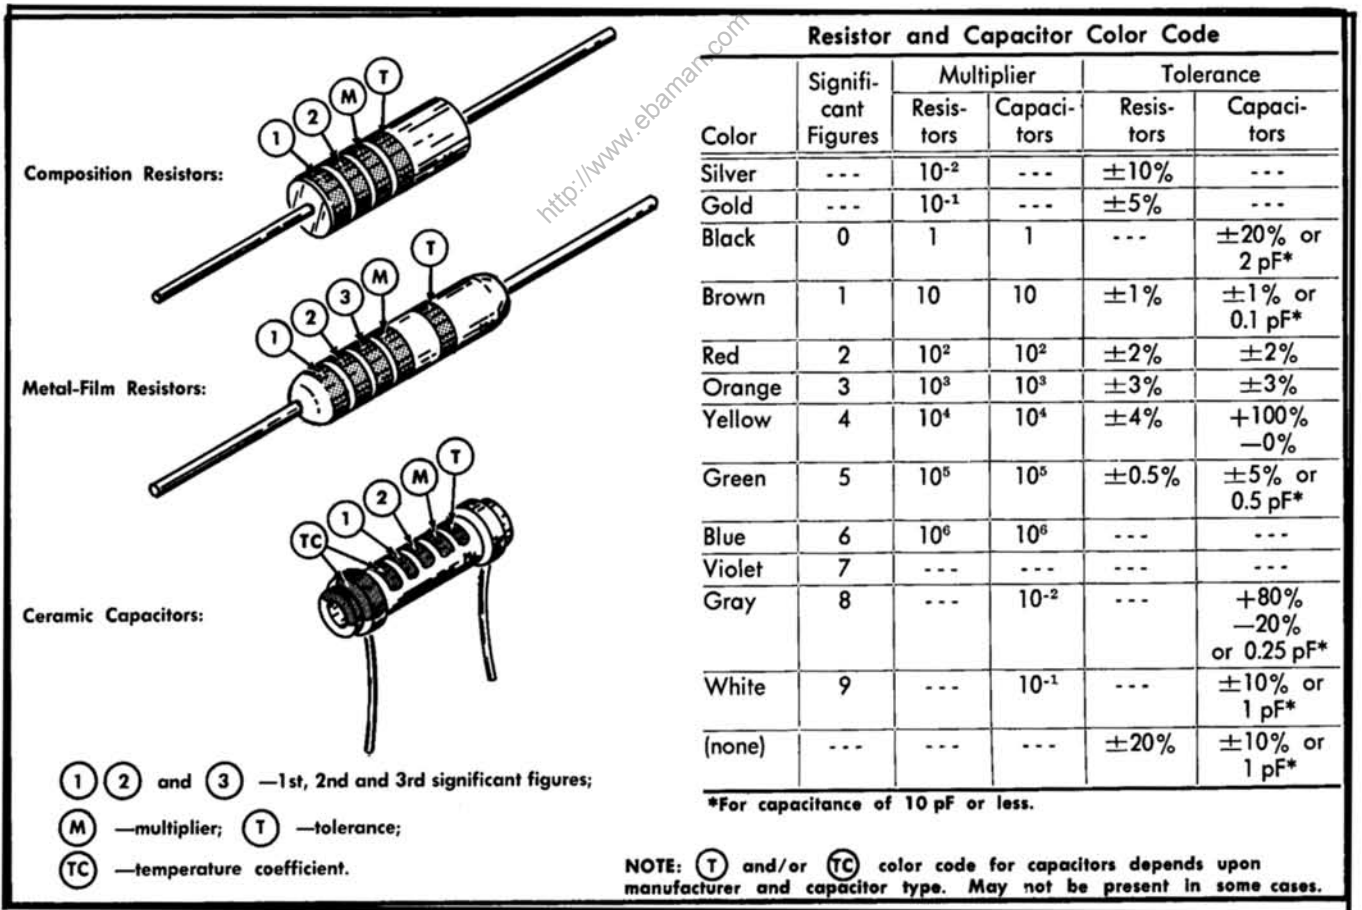

Fig. 4-1. Color-code for resistors and ceramic capacitors.
**Resistor Color-Code.** In addition to the brown composition resistors, some metal-film resistors and some wire-wound resistors are used in the 7B70. The resistance values of wire-wound resistors are printed on the body of the component. The resistance values of composition resistors and metal-film resistors are color-coded on the components (some metal-film resistors may have the value printed on the body) with EIA color code. The color code is read starting with the stripe nearest the end of the resistor. Composition resistors have four stripes which consist of two significant figures, a multiplier and a tolerance value (see Fig. 4-1). Metal-film resistors have five stripes consisting of three significant figures, a multiplier and a tolerance value.
**Capacitor Marking.** The capacitance values of common disc capacitors and small electrolytics are marked in microfarads on the side of the component body. The white ceramic capacitors used in the 7B70 are color coded in picofarads using a modified EIA code (see Fig. 4-1).